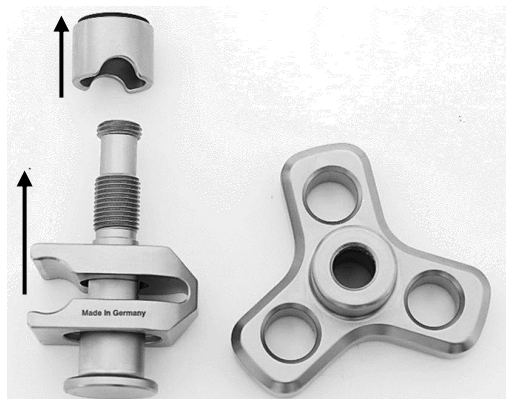

Fig. 19
First pull the clamping sleeve (2) from the threaded rod (4), then remove the clamping piece (3) (Fig. 19).